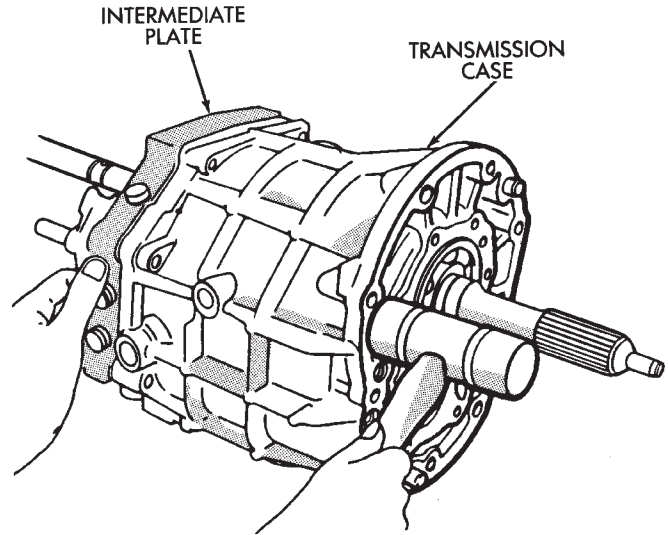

Fig. 92 Installing Transmission Case
- (1) Remove intermediate plate from vise.
- (2) Install new gaskets on intermediate plate.
- (3) Install transmission case on intermediate plate (Fig. 92).